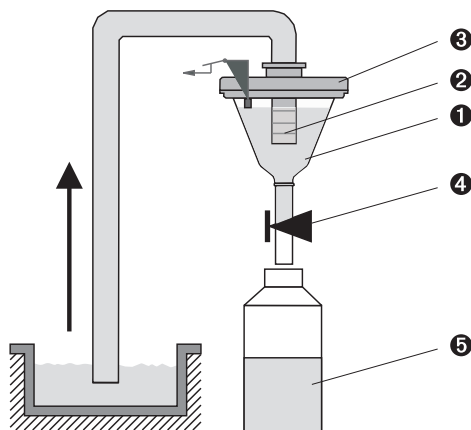

Fig. 53: Sampling principle
- Dosing system (→ Figure 53, 'Sampling principle')